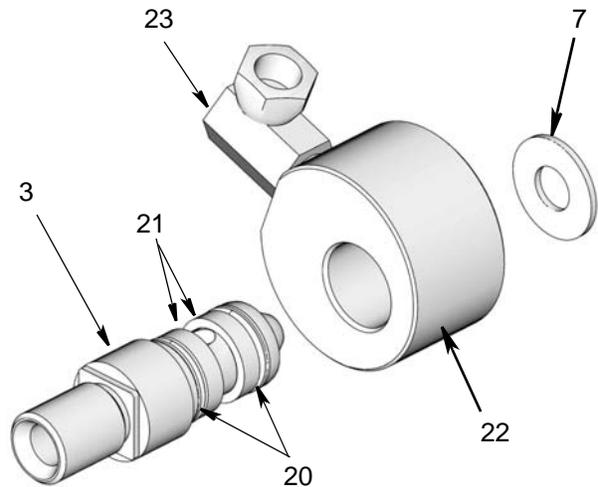

FIG. 6
8. Remove large nut (32).
9. Remove two screws (27) holding pedestal (26) to base (24) and three screws (52) and nuts (53) holding hose guide (31) to guide arm (30).
11. Lay hose reel with spool side down so you can easily access the remaining installed guide arm and pedestal (24 / 30). Remove long bolt (18) and washers (15 / 16).
NOTE: The swivel assembly is held in place by the tension created when bolt (18) is tightened and securely in place. When this tension is removed by loosening the bolt, the swivel and swivel shaft assembly parts (3 / 22) and washer (7) may come apart (FIG. 6).